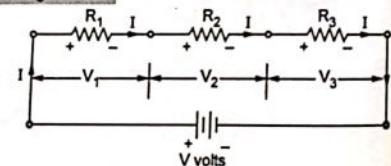

Fig. 1.8.1 A series circuit
- Consider the resistances shown in the Fig. 1.8.1.